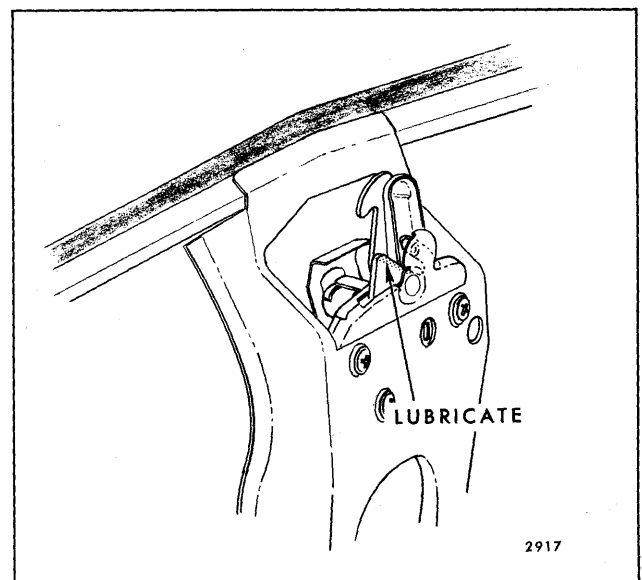

Fig. 2-1—Front Compartment Lid Lock
2. Apply a thin coat of white lithium soap grease (Lubriplate 630 AAW or equivalent) to the contact surface of the fork bolt (Fig. 2-1).